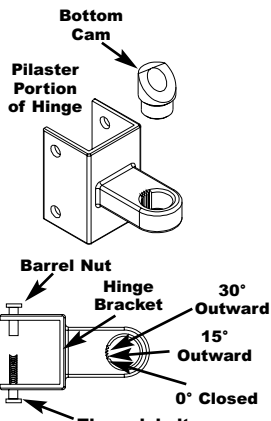

FIGURE 8
- A. The cam should be set to same desired position on upper and lower hinge assemblies. See figure 8.